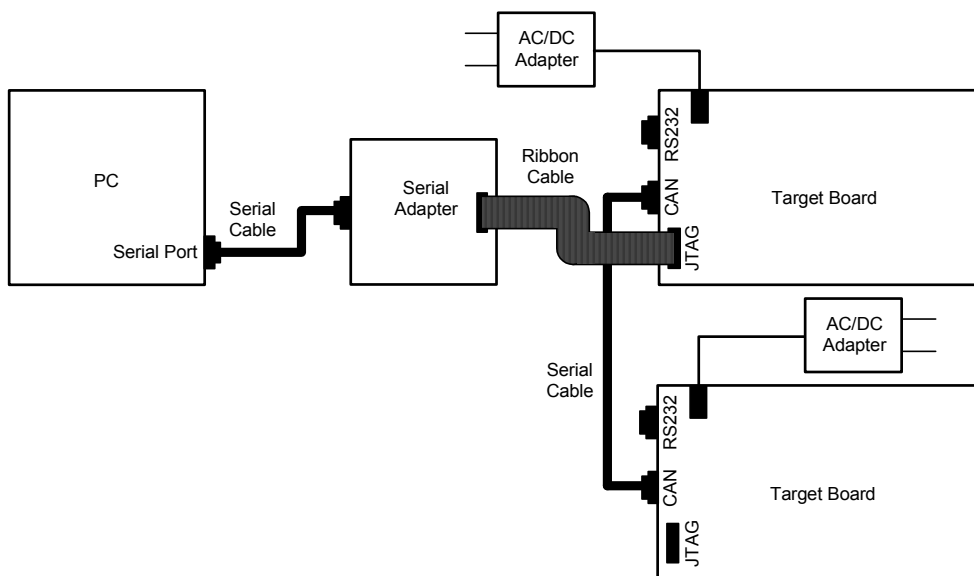
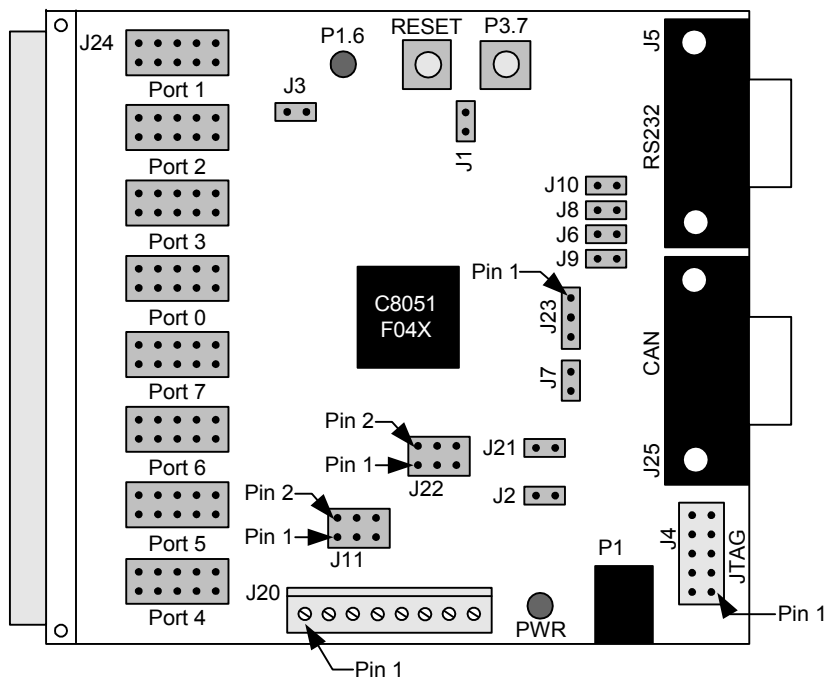

Figure 2. CAN Application Hardware Setup
Figure 3. C8051F040 Target Board
1. Connect the target boards together at the CAN DB-9 connectors using the CAN cable provided in the development kit, as shown in Figure 2 on page 5. The correct cable has a male connector on both ends. Take care not to connect the CAN cable to the RS232 DB-9 connector. See Figure 3 on page 6 for the location of the CAN DB-9 connector.
The C8051F04x Development Kit includes a target board with a C8051F040 device pre-installed for evaluation and preliminary software development. Numerous input/output (I/O) connections are provided to facilitate prototyping using the target board. Refer to Figure 3 for the locations of the various I/O connectors.